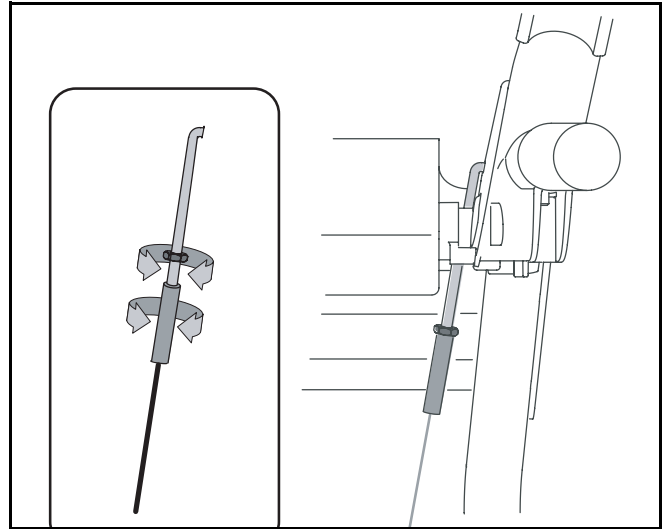

Figure 3
- Loosen the hex jam nut on the auger control cable “Z” fitting and rotate the coupling end of the cable downward to provide more slack or upward to take up slack. See Figure 3.